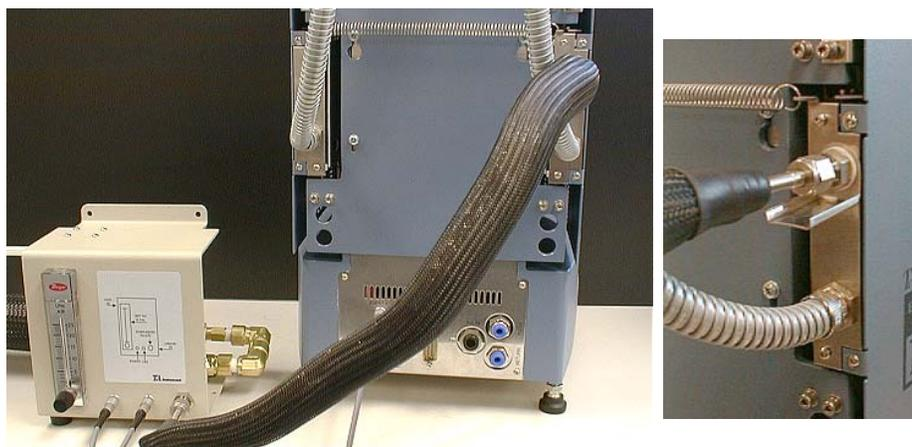

Figure 5.23
3. Connect the flexible hose from the outlet of the cryogenic cooling system to the 'Liquid in' connection on the flow meter assembly as shown in Figure 5.23. Connect the purge gas from the flow control assembly to the rheometer.